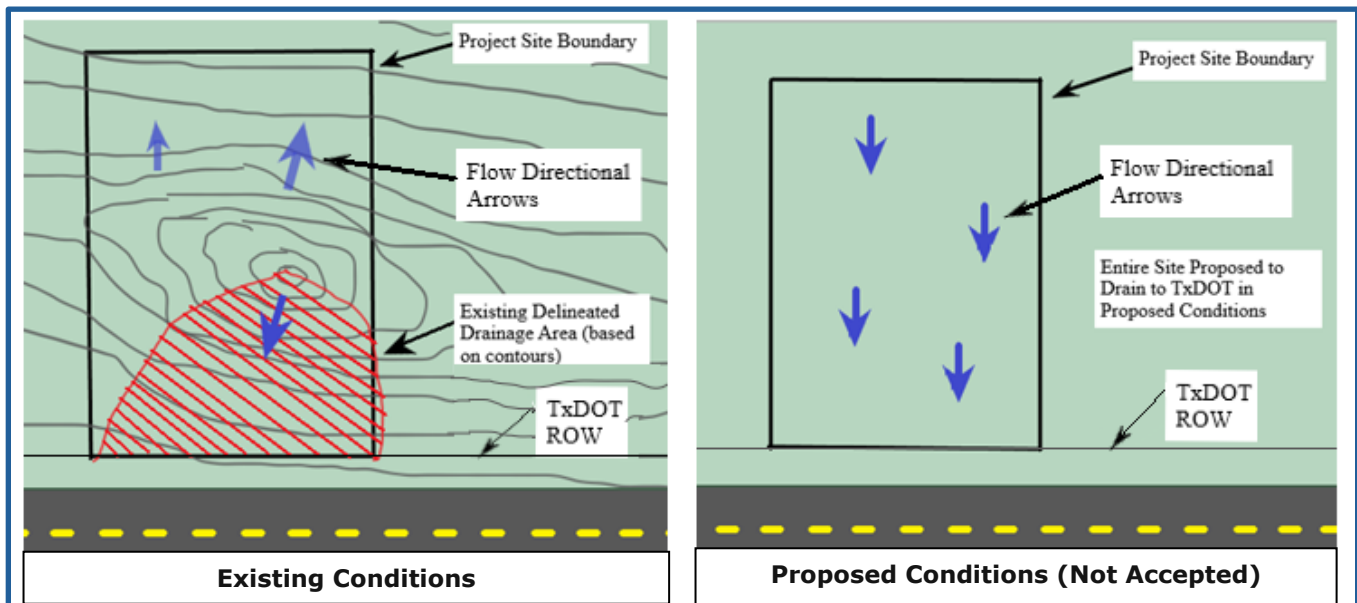

Figure 1: Example of Diverted Area
1. Examine the existing conditions topographic survey, as well as the best available LiDAR topographic data for the surrounding area. If the existing topography within the project site boundary does not drain entirely to TxDOT in existing conditions, and the development is proposing to drain this area to TxDOT, this constitutes diverted area; refer to Figure 1 for an illustration of diverted area. **TxDOT does not accept diverted area** unless one of the conditions as described in the *Diverted Drainage Area Guidelines* document applies. Any variances to the *Diverted Drainage Area Guidelines* must be approved by the TxDOT HOU HYD Director on a case-by-case basis. Please note the TxDOT HOU HYD Director reserves the right to deny any variance requests.